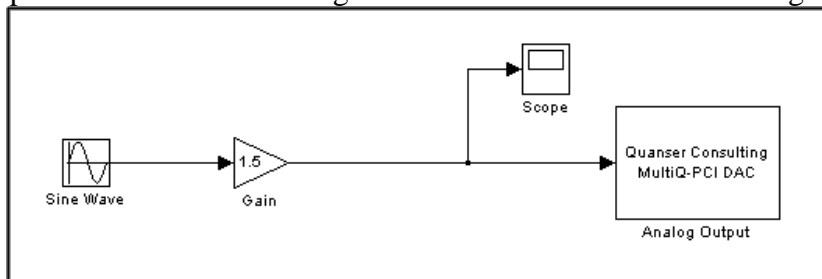

Figure 3 Diagram to Apply a Sine Wave Voltage to the D/A
Step 3. Build a Simulink diagram similar to the one shown in Figure 3.